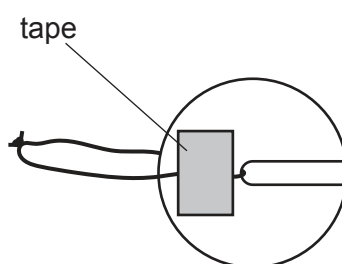

Fig. 1.2
- 2 The slotted mass should have a string loop of approximate circumference 15 cm attached with tape as shown in Fig. 1.2. Use tape on both faces of the slotted mass.